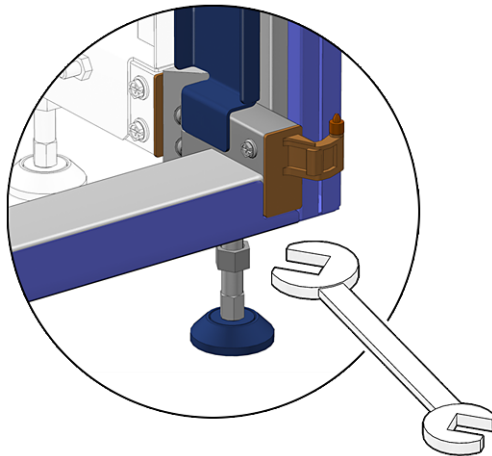

FIGURE 3-1 Securing the Cabinet Extension Stabilizer Feet
| FIGURE 3-1 | Securing the Cabinet Extension Stabilizer Feet | 11 |
1. Using an adjustable wrench or a small flat blade screwdriver, adjust the cabinet extension feet (FIGURE 3-1).